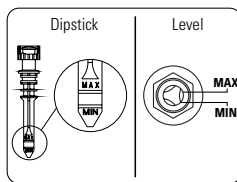
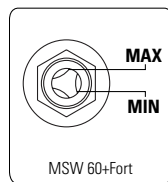

FIGURE 8.6
FIGURE 8.7
1. Check oil level (Figure 8.6) (For oiled compressors).
- Check the oil level and add oil if necessary before switching on the compressor. The oil level must be between the maximum and minimum marks of the oil gauge dipstick (For oiled compressors) (Figure 8.6). For compressor model MSW 60+Fort the oil view sight shall be read according to Figure 8.7.